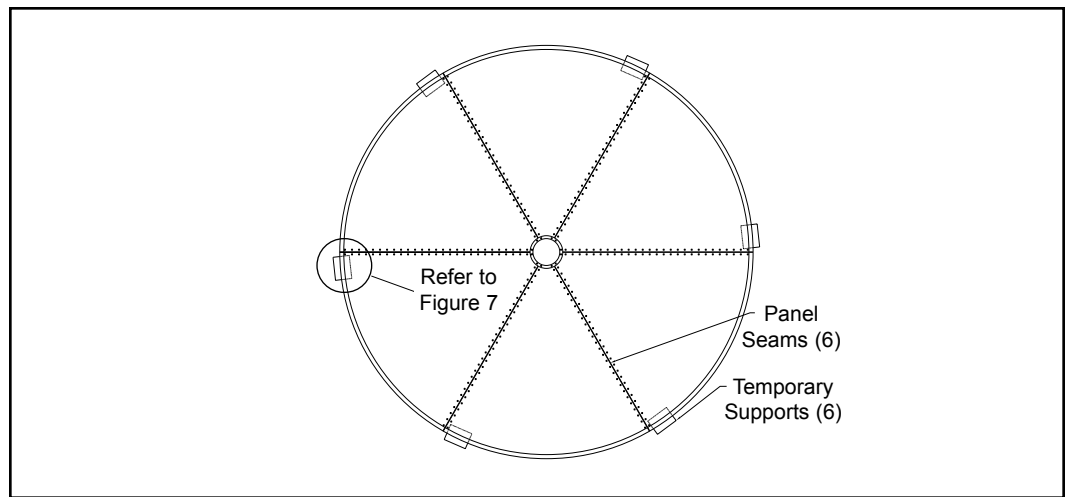

Figure 61
Step 1 Position (6) temporary supports near panel seams exactly as shown in Figure 61. **Note:** Temporary supports should be large enough to adequately support the reflector and strong enough to easily support reflector weight without compressing.